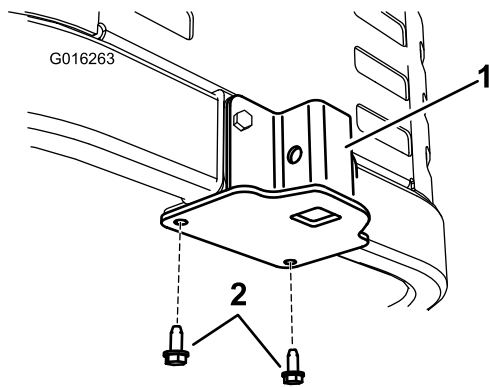

Figure 4
2. Secure the support bracket to the bottom of the machine frame from below using two self tapping screws (5/16 x 3/4 inch) as shown in Figure 4.